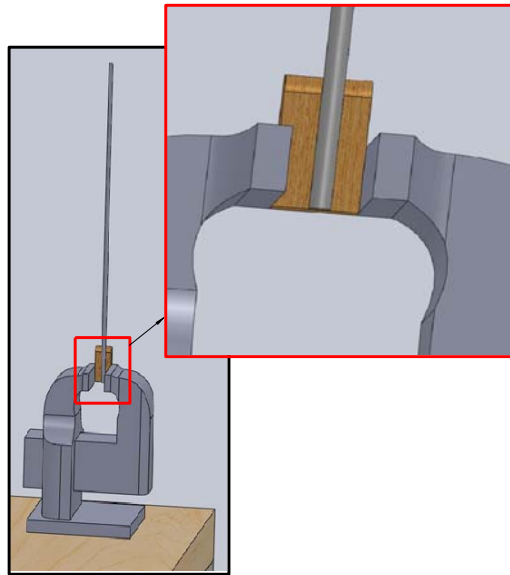

Figure 4: Clamping the die into the vice
- A. Clamp the **3/8" Diameter Die** into the **Table Vice** as shown in Figure 4.